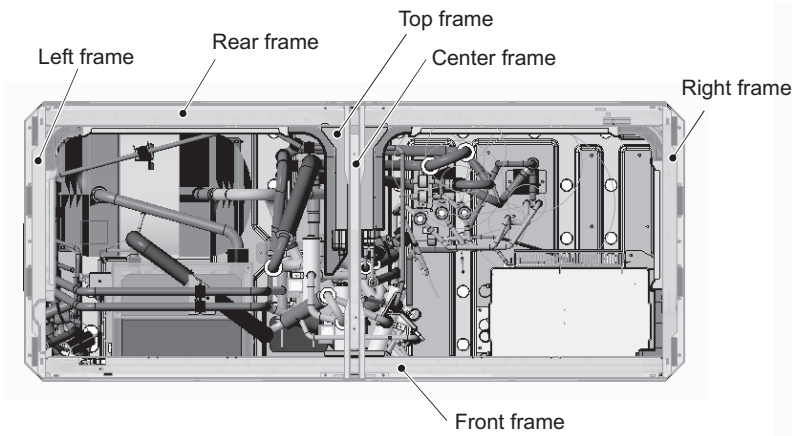

Figure 15
- (14) To remove the front heat exchanger, first remove the front, left, right, and center frames by unscrewing the 16 screws. (See Figure 15.)
To remove the right and left rear heat exchangers, remove the top and the rear frames in addition to the front, left, right, and center frames by unscrewing the 21 screws. (See Figure 15.)